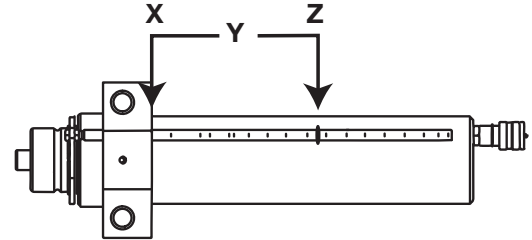

Figure 16
3. Move rubber ring to calculated  $Z$ -Position. (Fig. 16)